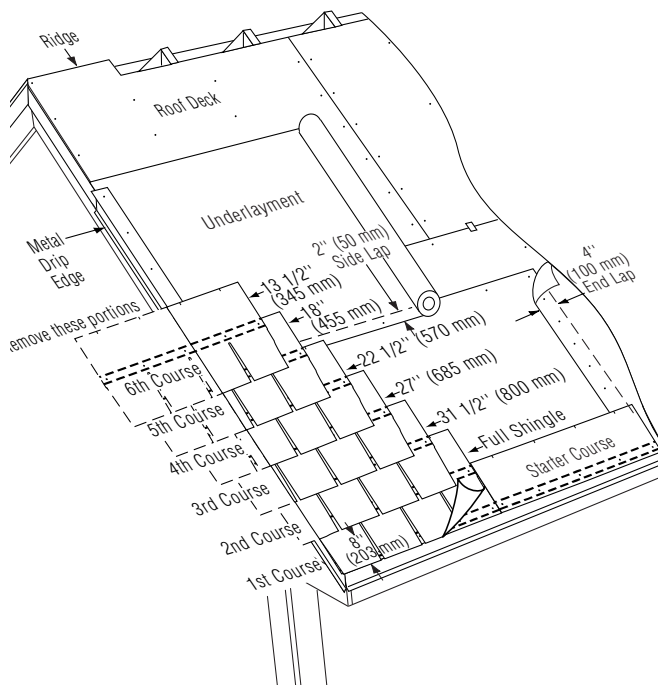

Figure 14-13: Applying the first six courses on a standard slope.
1. For the second course, cut $4\frac{1}{2}$ " off the left end of a full shingle, and install this cut shingle over and above the first shingle of the first course. Leave the 8" tabs of the first-course shingle exposed to the weather by aligning the lowermost edge of the second course with the top of the flared cutouts (Figure 14-13).